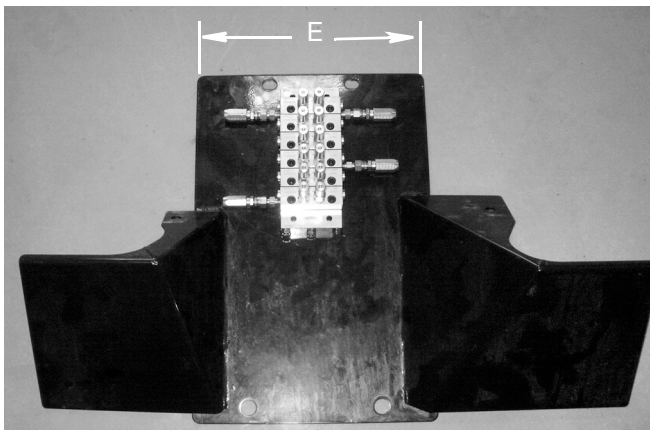
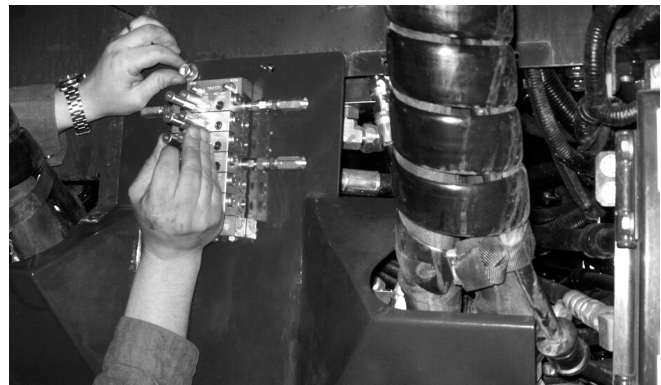

FIG. 19: Center Master Divider Valve on Panel
FIG. 22
2. **HM300-5 Models:** Center the Master Divider Valve (left to right) on the access panel and 1.75 inches (44.45 mm) from the top of the panel as shown in FIG. 19 and FIG. 22.